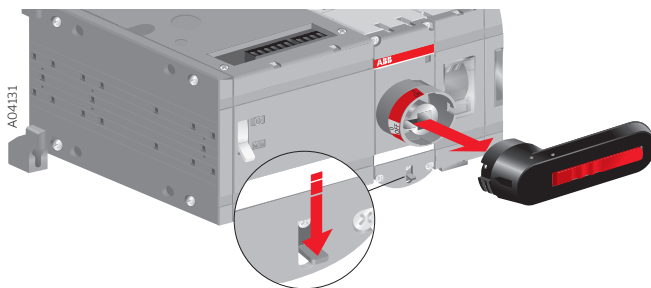

Figure 8.1 **Releasing the handle**
1. Release the handle from the switch panel by pressing down the locking latch under the switch panel and pulling the handle off, see Figure 8.1.